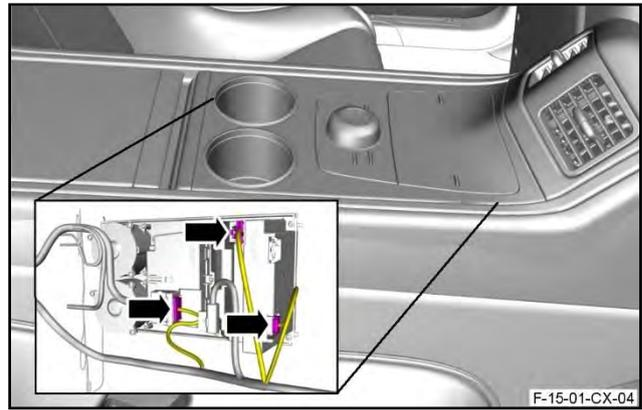

Figure 112
- 150. Connect the three electrical connectors to the rear centre stack assembly (refer to Figure 112).